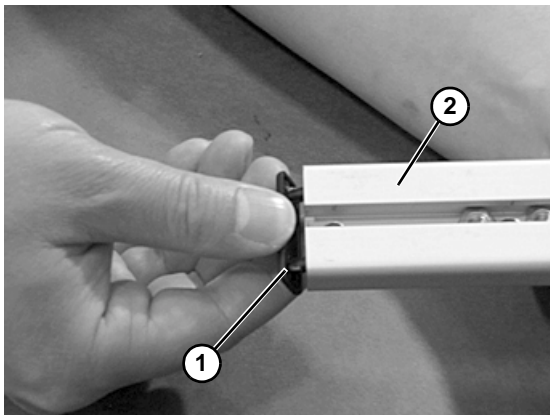

Figure 12
2. Insert end caps (Figure 12, item 1) into ends of mounting bars (Figure 12, item 2).